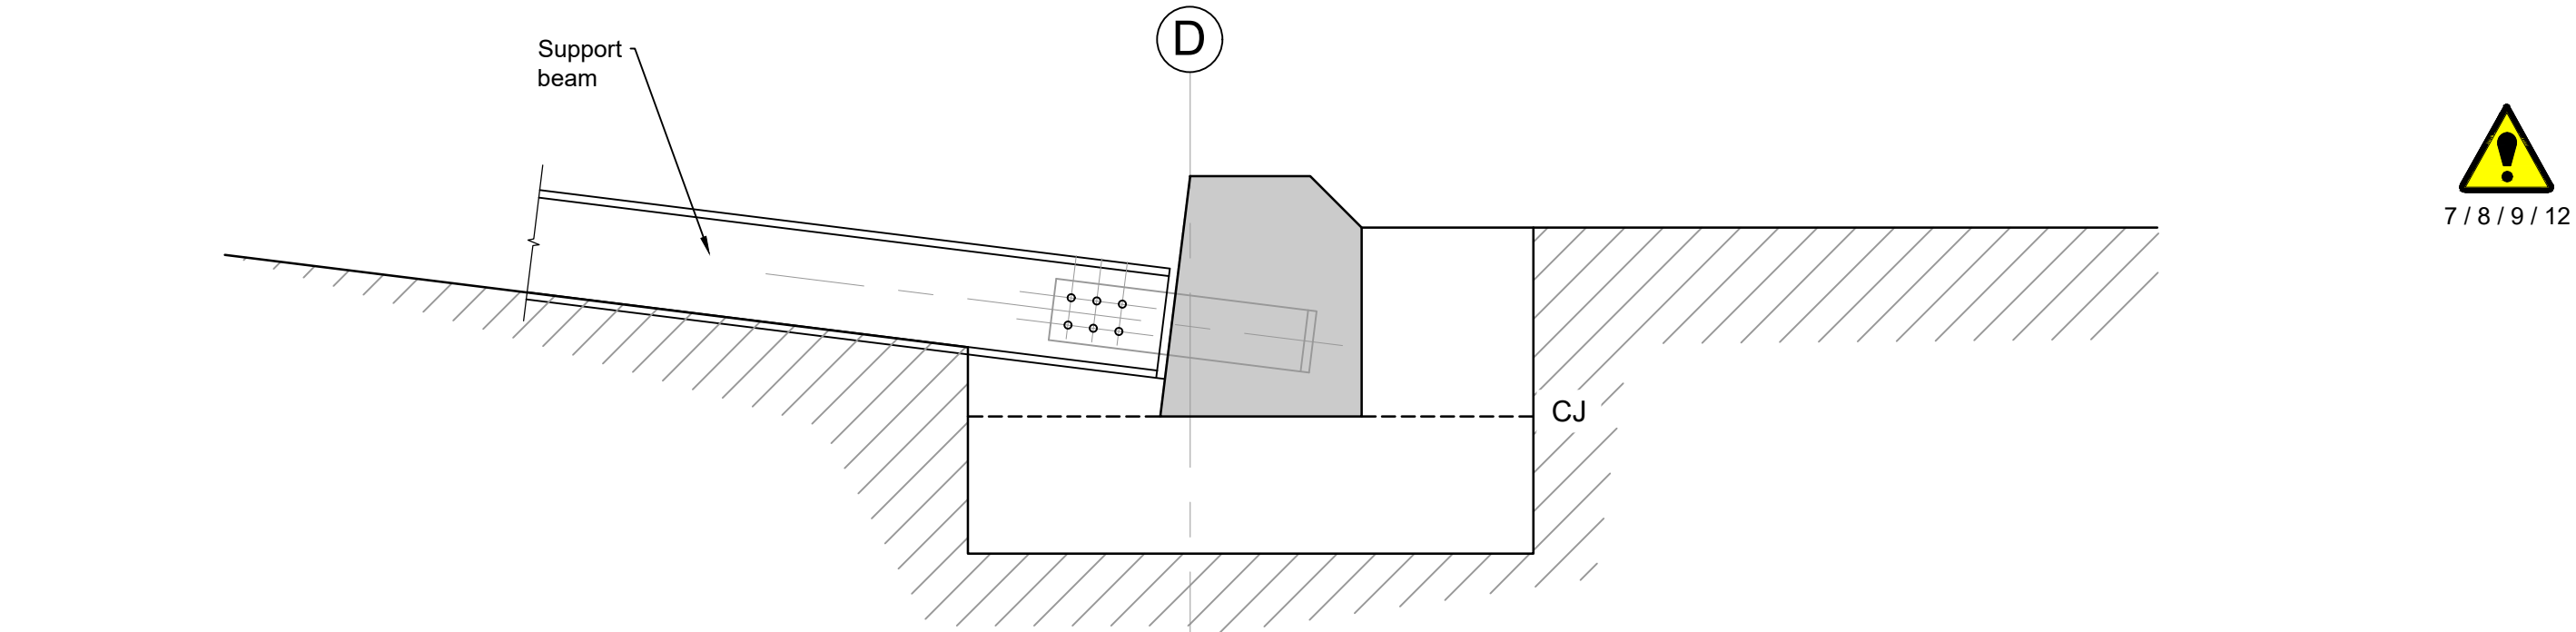

Figure 1
- Precast toe beam placed at correct location and level. It is anticipated that the toe beam will be moved into position using either land based lifting plant or floated into position using bag lift approach. Toe beam to be supported in temporary condition by concrete blocks or similar. Refer Figure 1.